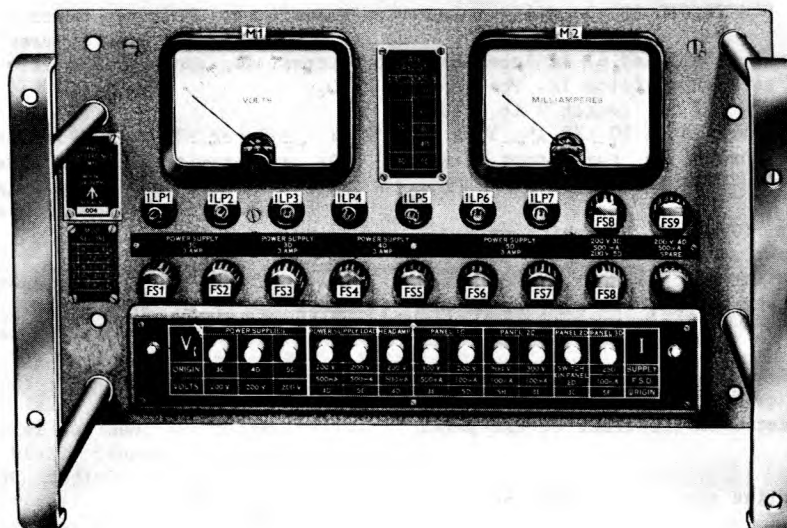

Fig.3 Panel, test electrical (No.2) M11: front view
8. This test panel (*fig. 3 and 4*) is located on the L.H. cabinet gate at position 1D. The panel dimensions are: height 9 in., length 9 in., width  $15\frac{3}{8}$  in., and the weight is 8 lb. Twelve push-buttons mounted on the front of the panel select the various functions.